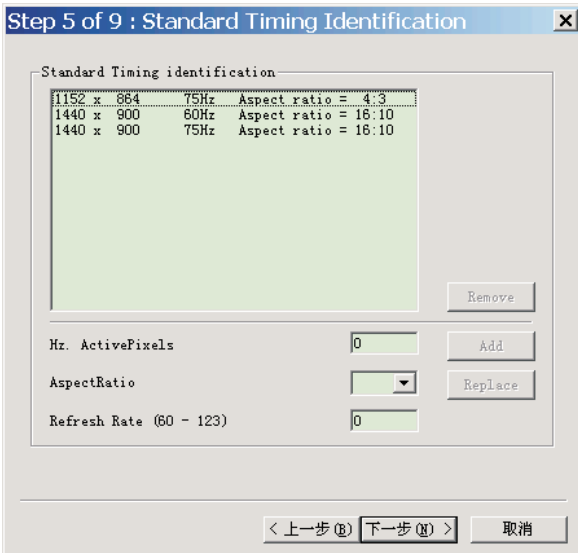

Fig. 35
- 4. Click Next , bring up Fig. 35.